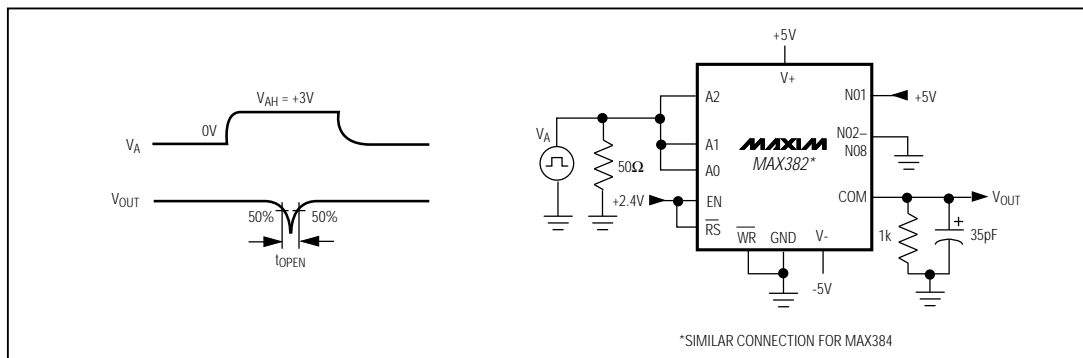

Figure 2. Break-Before-Make Interval (t_{OPEN})
WRITE (WR) and RESET (RS) strobes are provided for interfacing with μ P-bus lines, alleviating the need for the μ P to provide constant address inputs to the mux to hold a particular channel (Figures 2–7).